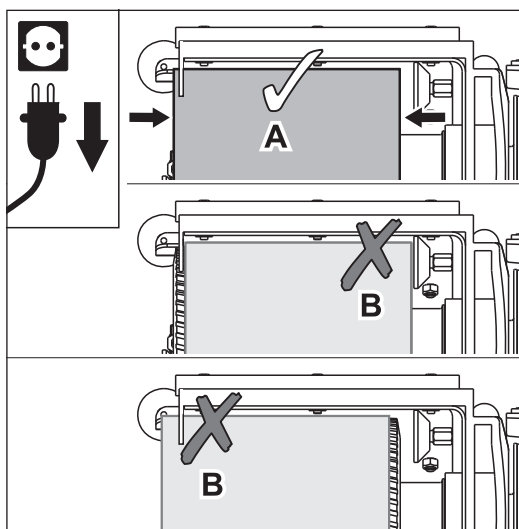

Fig. 11 Position the sanding belt so that it evenly covers the sanding drum (A). Avoid position B without fail (risk of fire)!
- 11 Position the sanding belt so that it evenly covers the sanding drum (Fig. 11, A).
Position B of the sanding belt in Fig. 11 provoke sparking during sanding! Avoid this without fail!